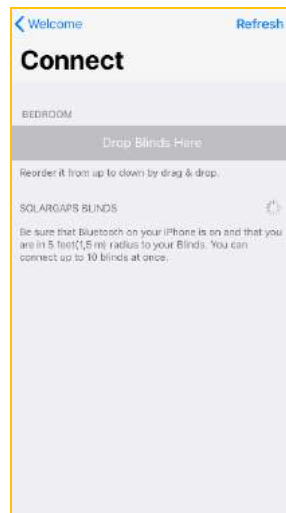

Figure 5
10.2.3.2. The application is searching for the BLINDS (Fig. 5).